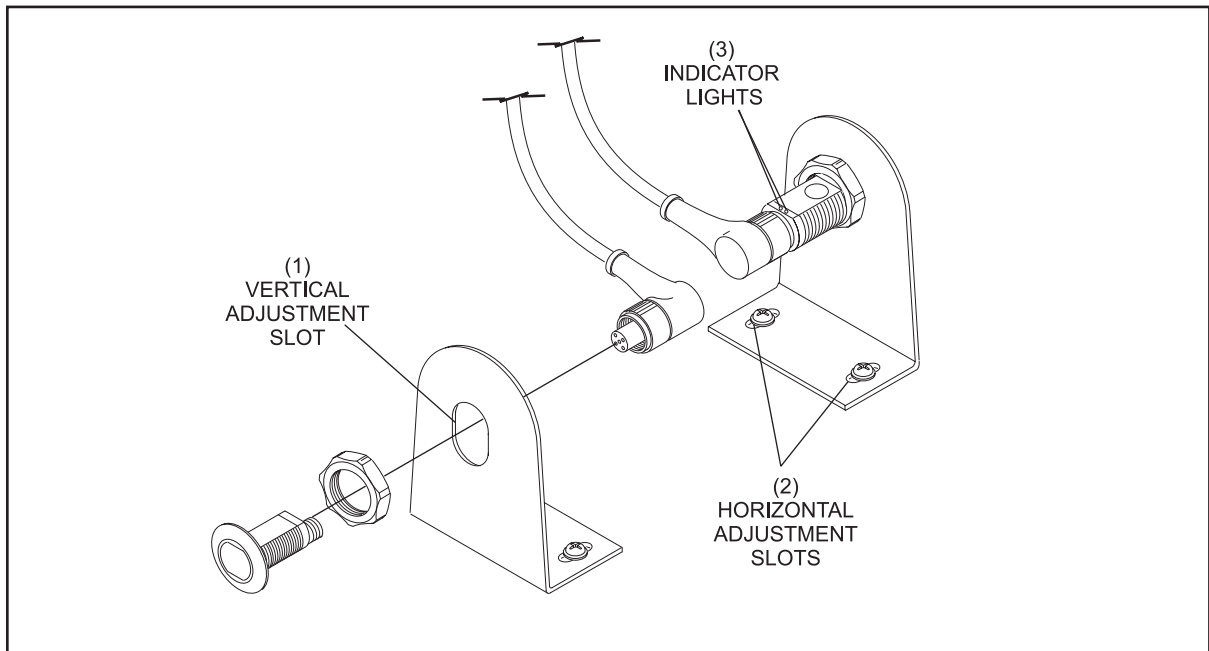

Figure 4-13. Pinsetter Ball Detector
The pinsetter ball detector unit is made up of an infrared transmitter and receiver. A green LED inside the unit indicates when the unit has power. A yellow LED lights to indicate when the signal is returning from the reflector. Up/down and side to side alignment adjustments are available on the unit. Refer to figure titled *Pinsetter Ball Detector*. Refer to *Figure 4-13*.
1. To align the ball detector, move the unit left/right (horizontal) or up/down (vertical) until the yellow indicator light is solidly “On”. To adjust vertically, loosen the threaded nut holding the ball detect to the bracket and slide the unit up/down. To adjust horizontally, loosen the metal bracket mount screws. Once in the desired position, retighten the mounting nut or mounting screws.. Refer to figure 4-13 titled Pinsetter Ball Detector.